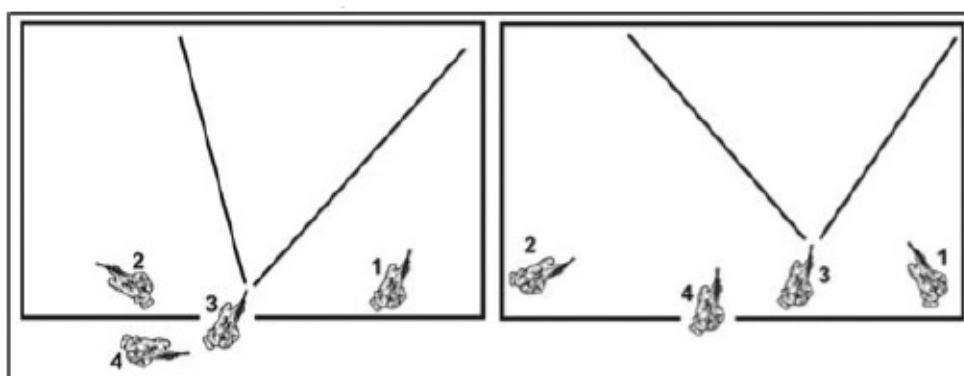

Figure 4-8. Third man enters a room
20. The third man (normally the grenadier) simply goes opposite of the second man inside the room, moves at least 1 meter from the entry point, and takes a position that dominates his sector (Figure 4-8).